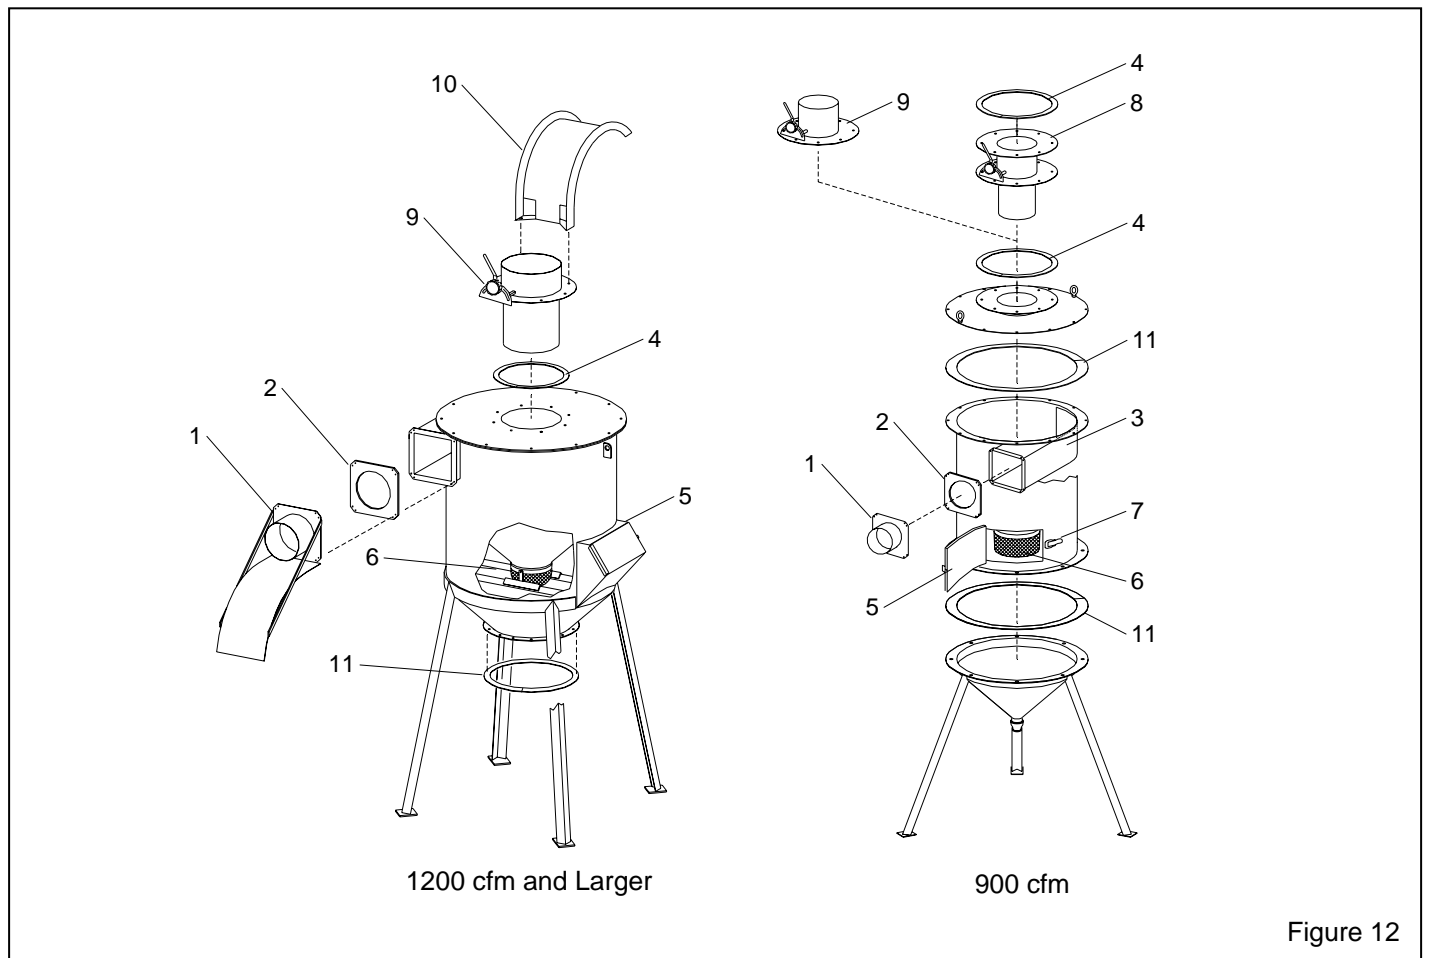

Figure 12
9.5 Reclaimer Parts, Figure 12